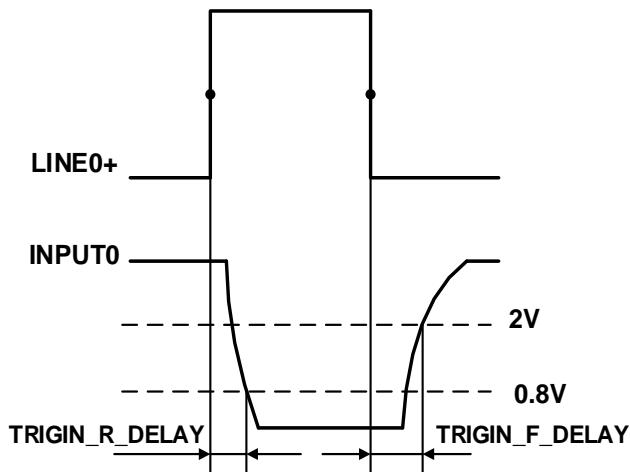

Figure 7-15 Parameter of opto-isolated input circuit
- Rising edge delay: <50μs (0°C~45°C), parameter description as shown in Figure 7-15
- Falling edge delay: <50μs (0°C~45°C), parameter description as shown in Figure 7-15
- Input rising time delay: <2μs (0°C~45°C), parameter description as shown in Figure 7-15
- Input falling time delay: <2μs (0°C~45°C), parameter description as shown in Figure 7-15